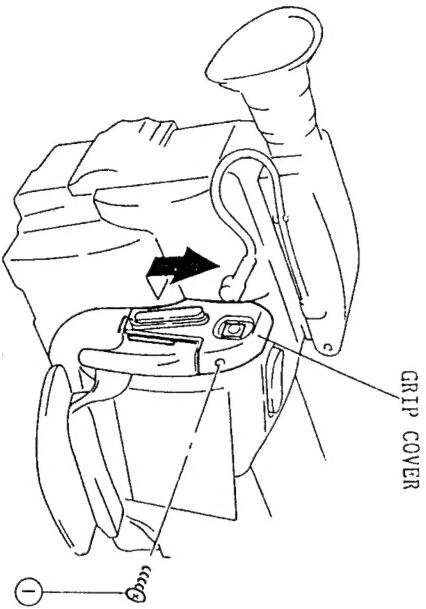

Fig. 2-1
1. Remove one (1) screw holding the grip cover and remove the grip cover in the direction of the arrow. (See Fig. 2-1)
1. Remove the grip cover. (See Fig. 2-1)